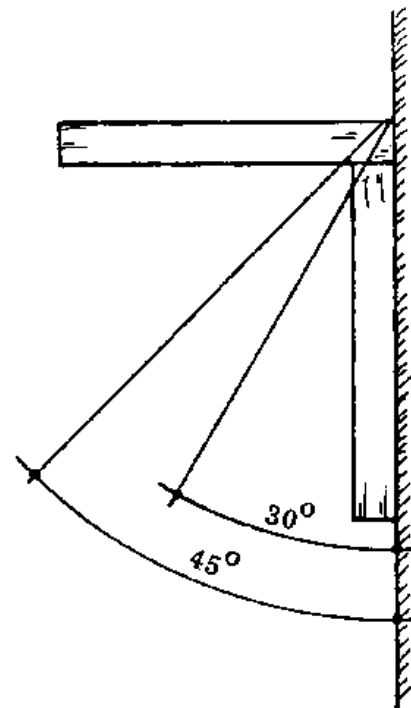

Fig. 3
- ERECTING THE SCAFFOLD: Hold the jack with its wall leg against the wall, and fit the prop into the corner of the jack. Set the foot of the prop securely in the ground. The other jacks are set up in the same way. Check that all three are at the same height and the distance between them is not more than 2 m. The angle between the prop and the wall should be no less than 30 degrees and no more than 45 degrees (Fig. 3). In soft soil, sole plates must be set under the feet of the props.